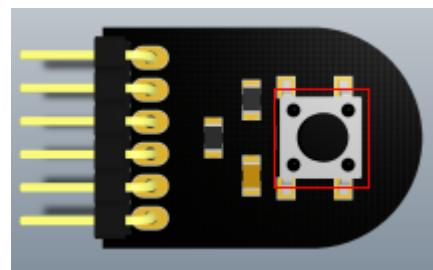

Figure 23 Impedance Demo Board
3. Attach the included impedance demo board (**Figure 23**) into the front-end input terminals with button positioned upward. Fasten the terminal screws.